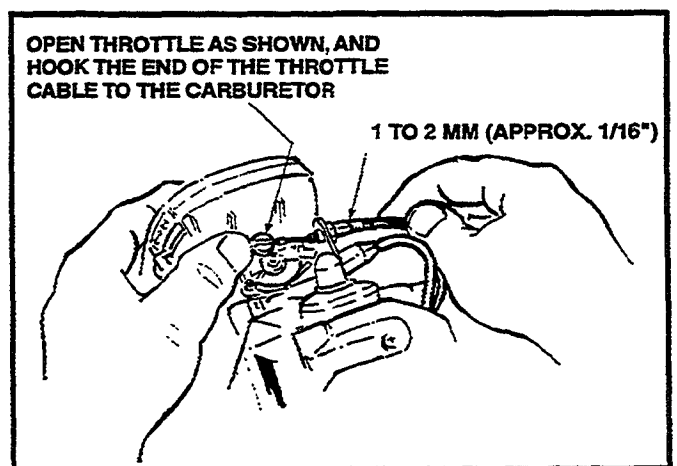

Figure 3
3. INSTALLING THROTTLE CABLE (Figure 3)